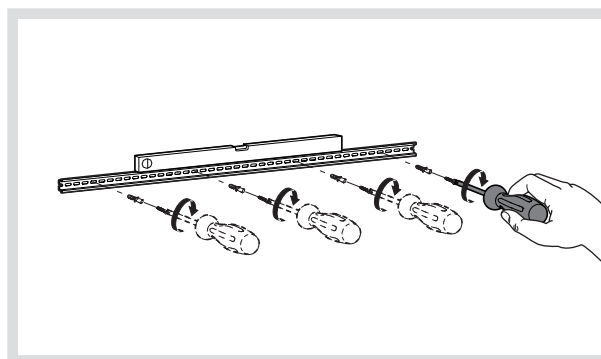

Figure 8: Assemble the supporting rail
- Align and fix the supporting rail on the wall with screws (Figure 8).